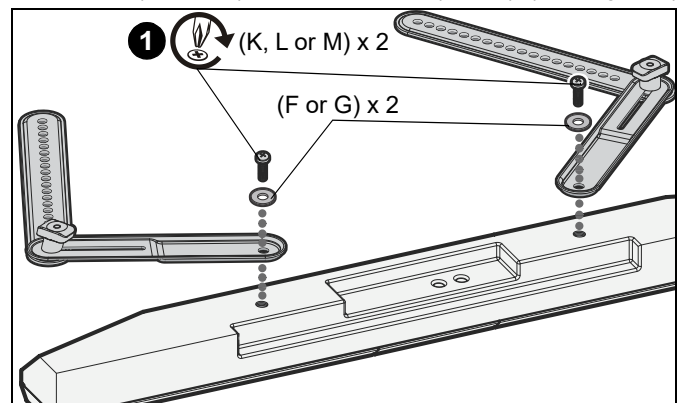

Figure 5
1. Attach the soundbar brackets (A) to soundbar using two screws (K, L or M) and two washers (F or G). (See Figure 5)